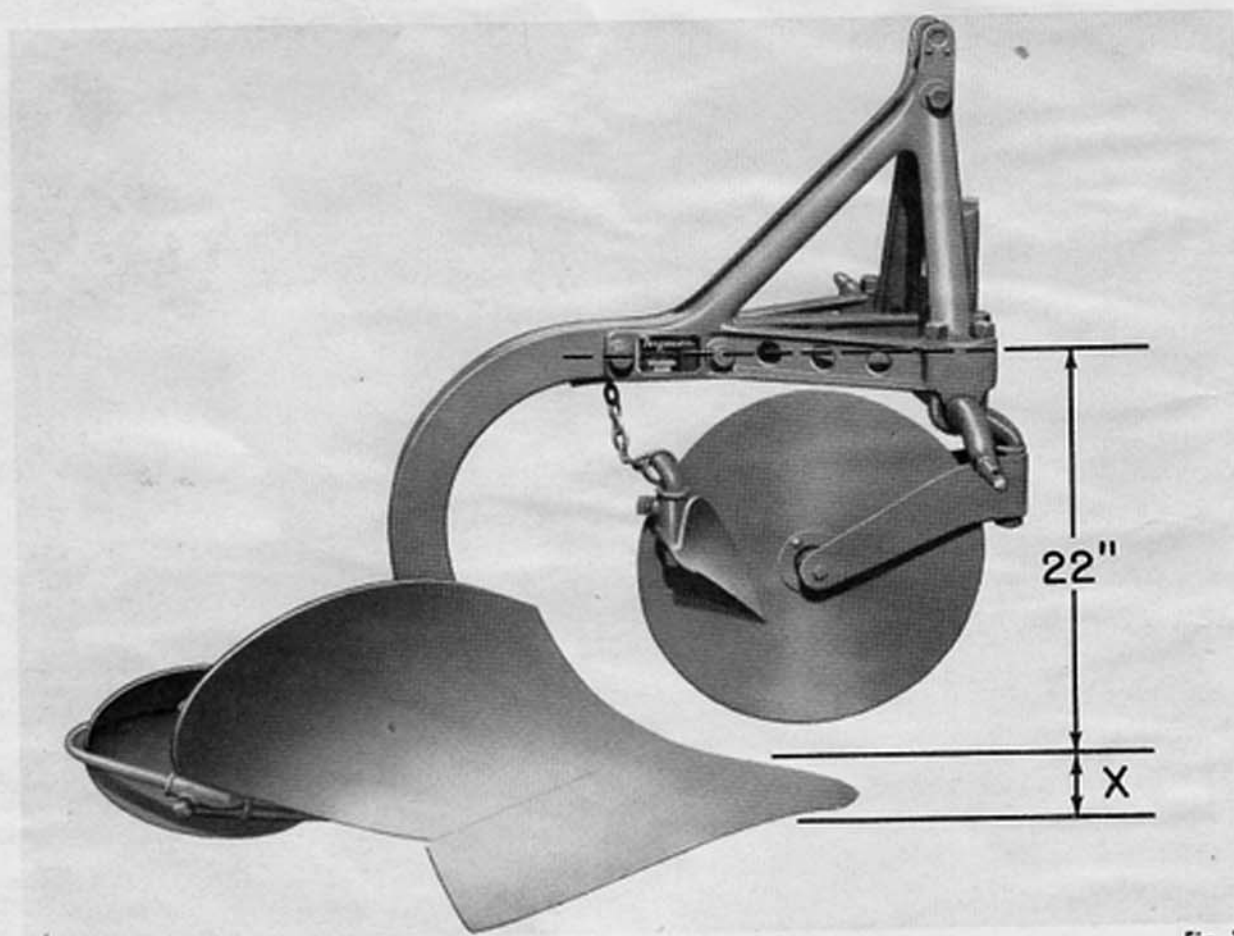

Fig. 16
5. Adjust the front of the plow beam until the distance from the centerline of the bolt holes, Fig. 16, to the flat surface is equal to the measurement from the surface to the bolt hole "X" plus 22".